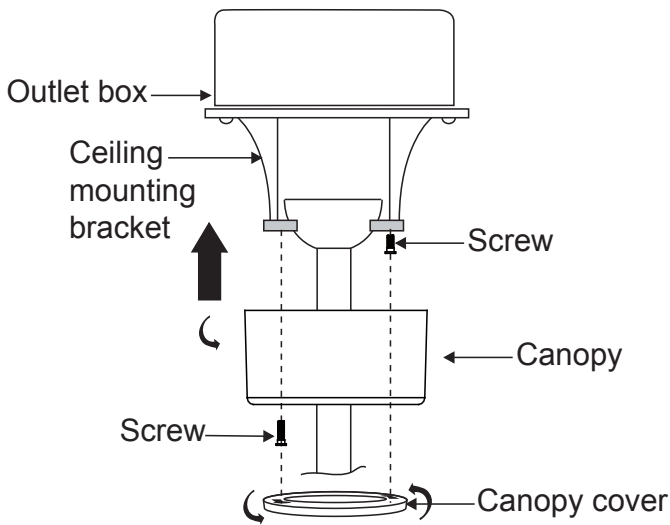

Fig. 14
**Step 2.** Slide the canopy up to the mounting bracket and place one of the key hole slots over the mounting screw on the mounting bracket. Rotate the canopy until the screw head locks in place at the narrow section of the key hole. (Fig. 14)
**NOTE:** Adjust the canopy screws as necessary until the canopy and canopy cover are snug. (Fig. 14)